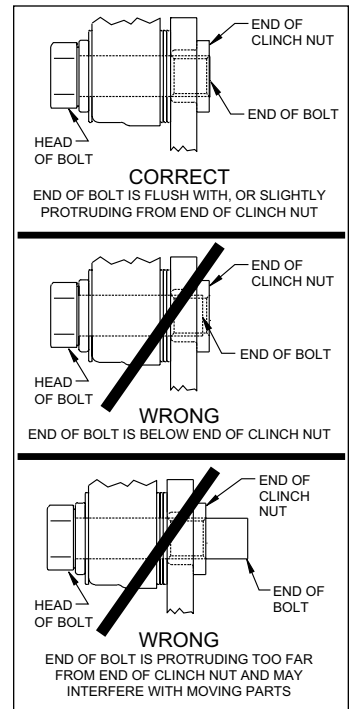

Figure 4. Clinch Nut Engagement Diagram
**CAUTION:** All mounting bolts must fully engage clinch nuts. Be sure to check that all bolts are either flush or protruding through flanged side of clinch nut after shimming, Figure 4.
•Adjust by adding or subtracting shims (2) between the bracket and the spindle. Always use the same amount of shims on each of the two mounting bolts.
•**NOTE:** The end of each bolt must be flush with or slightly protruding from the head of the clinch nut, as shown in Figure 4. If necessary place spare shims (2) between washer (19) and caliper mounting ear to achieve the proper clinch nut engagement. Once the caliper alignment and clinch nut engagement is correct, remove the ProSpindle and steering arm bolts one at a time, apply red *Loctite*® 271 to the threads, and torque to 55 ft-lb. Remove the caliper mount bolts one at a time, apply red *Loctite*® 271 to the threads, and torque to 40 ft-lb.
•Install the disc brake pads (21) into the caliper (18), with the friction material facing the rotor (8), and secure in place using cotter pin (22), Photo 10.